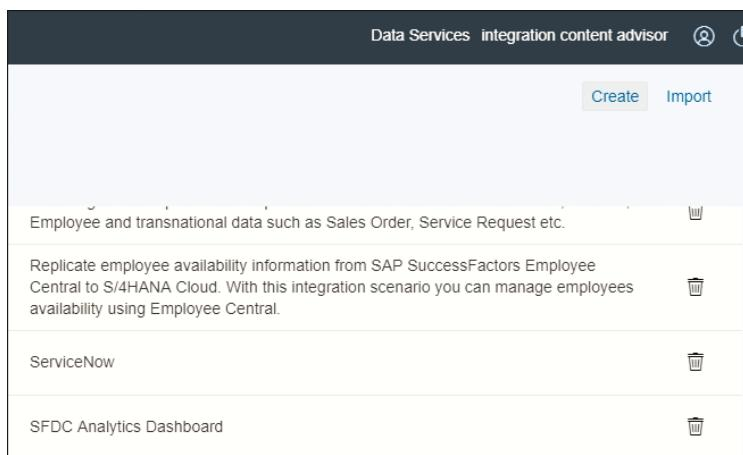

Figure 3.28 Creating an Integration Package
2. Select the **Create** option to create an integration package, (see Figure 3.28).